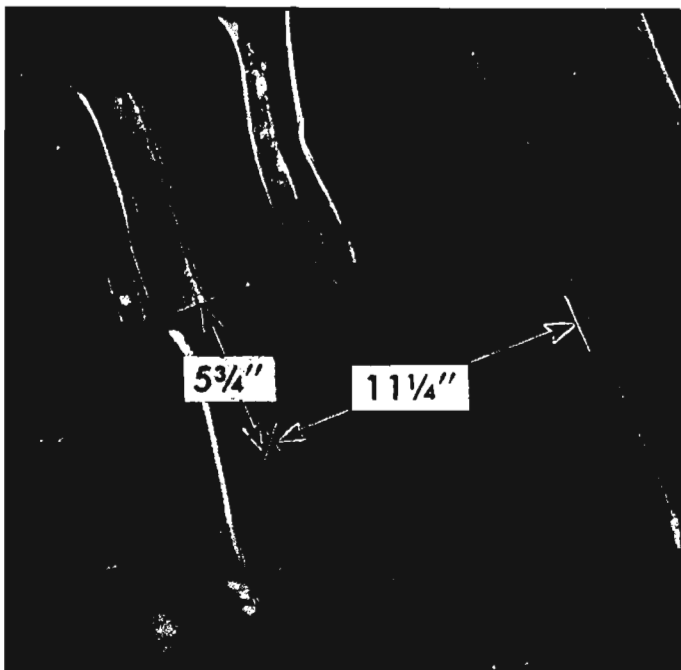

Fig. 10-8—Floor Area for Forward Mount Repair
3. Locate point on floor directly above weldnut by measuring as shown in Figure 10-8. Indent with center punch and drill 2" hole with hole saw.